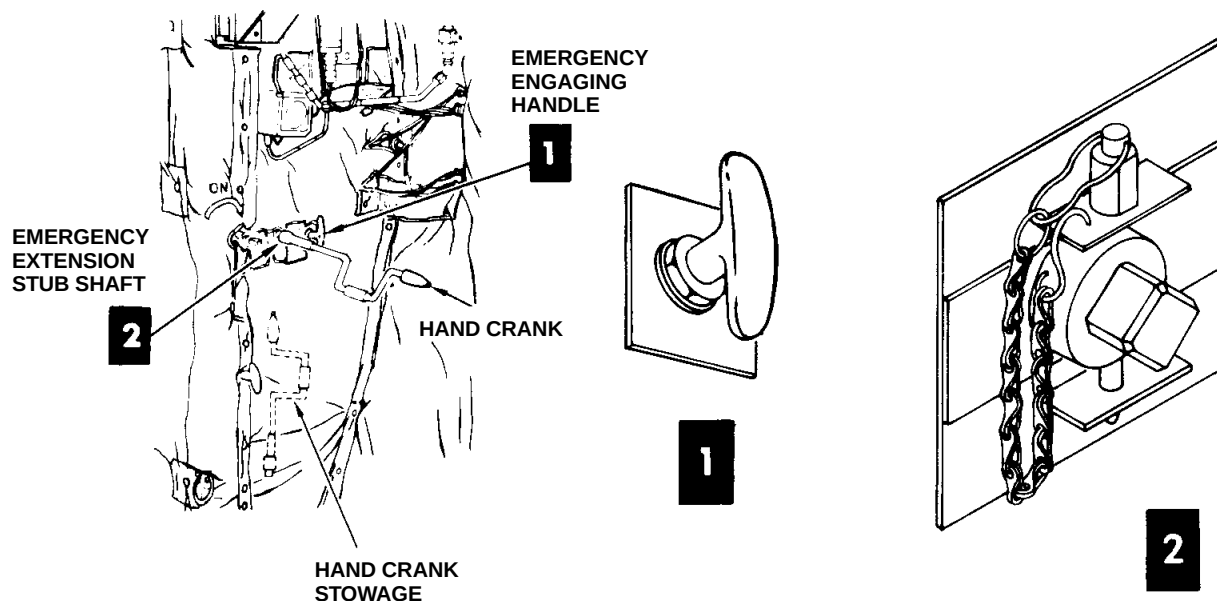

Figure 3-7
6. Remove the hand crank from the stowed position, in the cargo compartment. (See figure 3-7.) Engage the hand crank on the input shaft, and hold the crank firmly to prevent rotation.